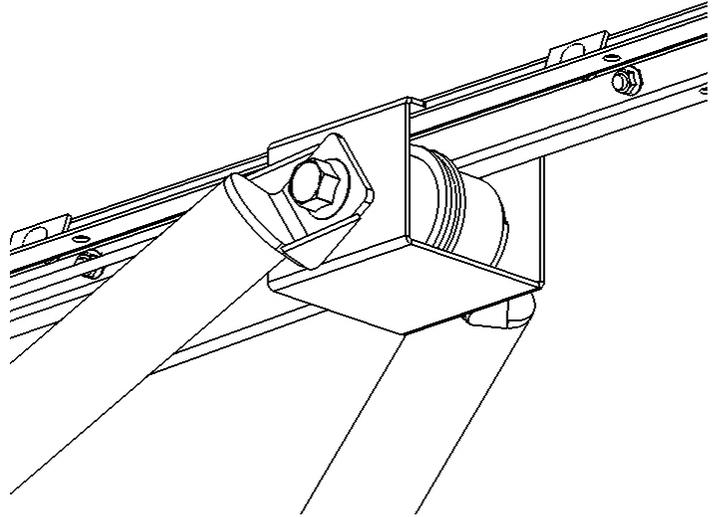
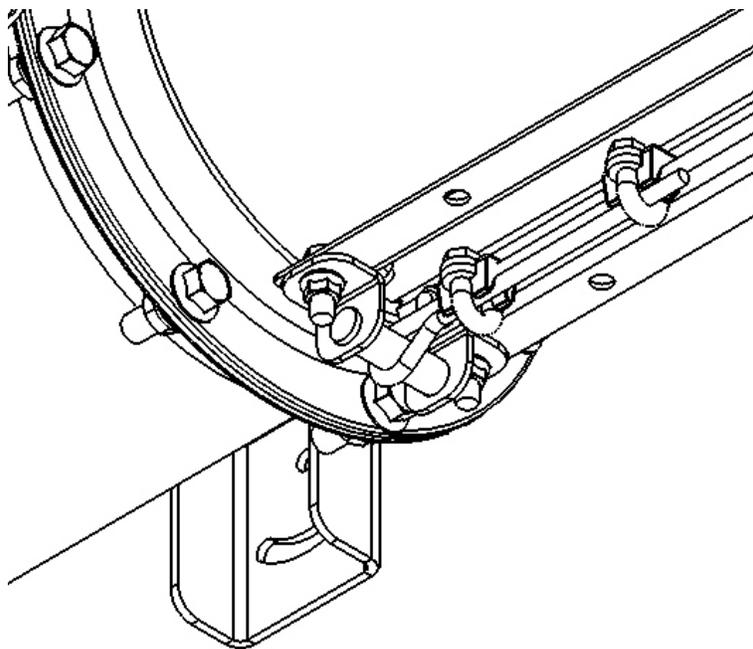

Fig. 15.2
Fig. 15.3
Next, attach the lift cable to the winch by sticking one end through the side of the drum and fastening the cable to the outside of the drum. For more information refer to winch manual included with auger. Route the cable up around the lift roller (Fig. 15.2) going from the bottom around the top. Next, pull the cable to the bottom of the discharge tube at wrap cable around the cable stop (30993) as shown if Fig. 15.3. Secure cable around the cable stop using (2) 1/4" cable clamps. After clamps are tightened, track the cable on the winch by slowing turning the handle and guiding the cable on to the drum so it spools properly.